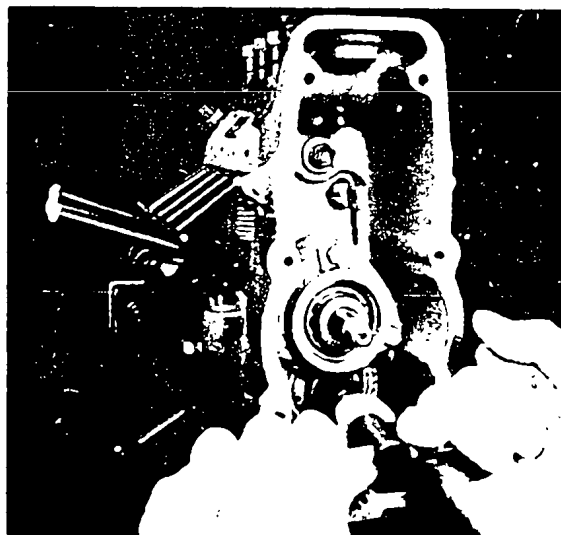

Fig. 23 Releasing the ring nut
2.3. 2. Unscrew ring nut (165) holding drive gear (161) using pin wrench EF 8 101 E, preventing rotation by applying wrench EFEP 119 to the coupling on the opposite side of the pump camshaft (Fig. 23). Remove spring washer (166).